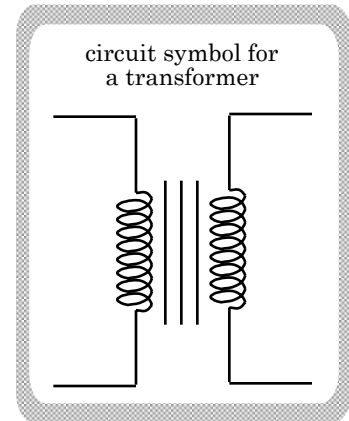

FIGURE 17.34
3.) The symbol for a transformer in a circuit is shown in Figure 17.34. The symbol is supposed to represent two coils connected by a common magnetic flux.